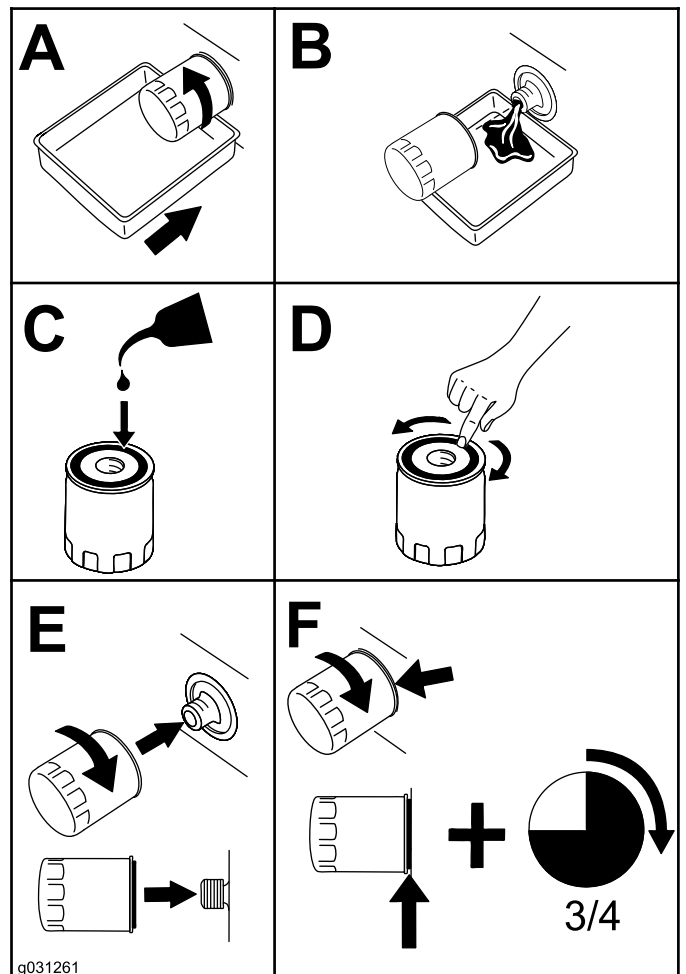

Figure 54
4. Change the engine-oil filter as shown in Figure 54.